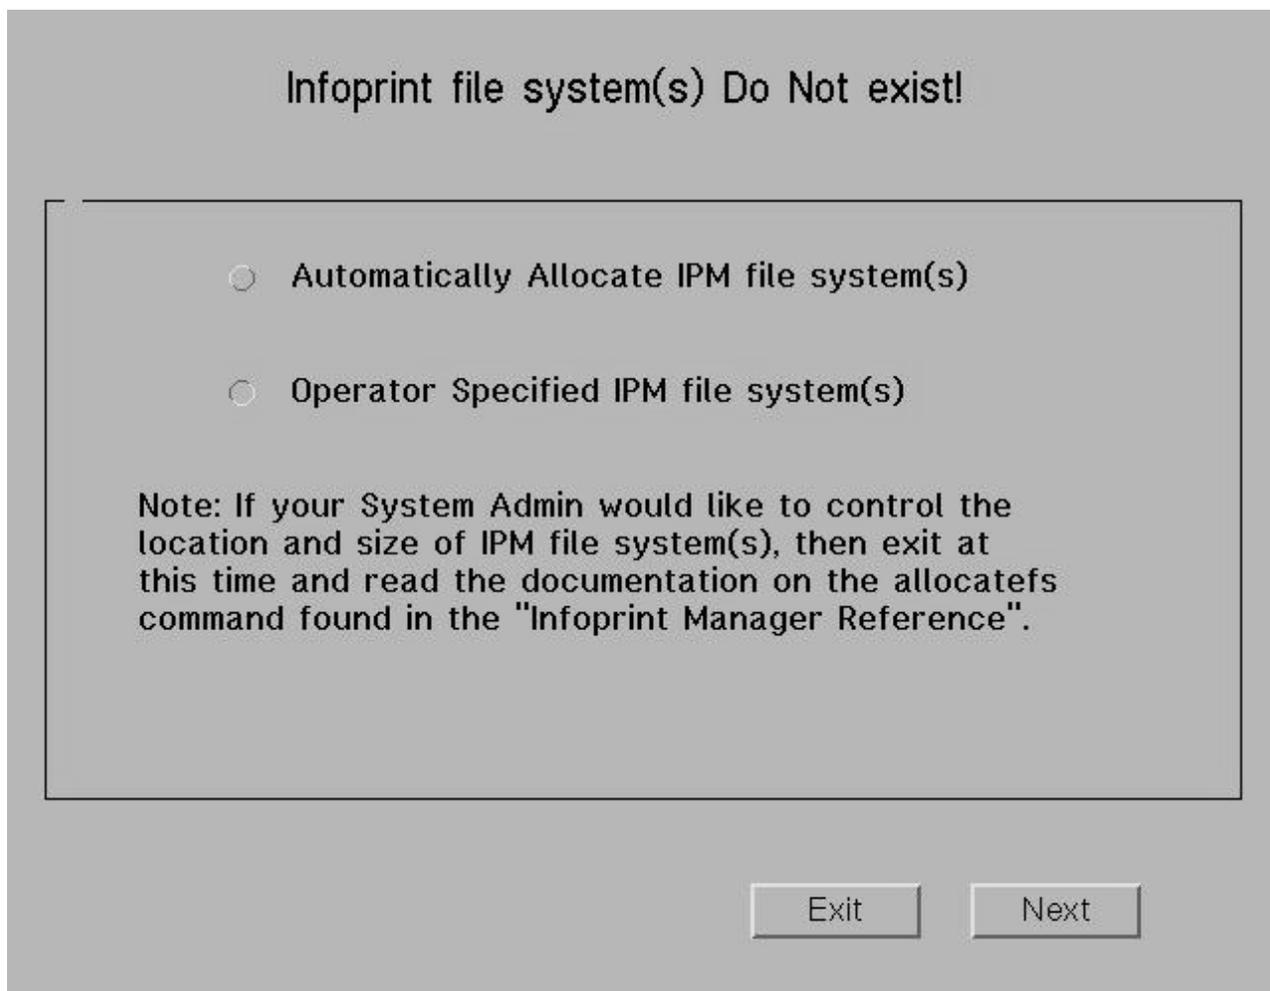

Figure 10. Infoprint Installer: Infoprint Filesystems panel
2. Allocate your AIX filesystems for Infoprint Manager (see Figure 10).